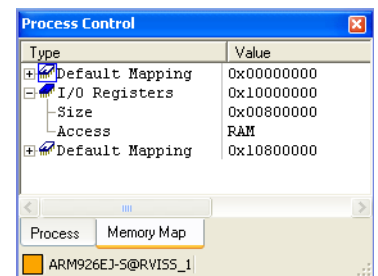

Figure 4-19 New memory map block in the Process Control view
3. Expand the I/O Registers entry. Figure 4-19 shows an example: